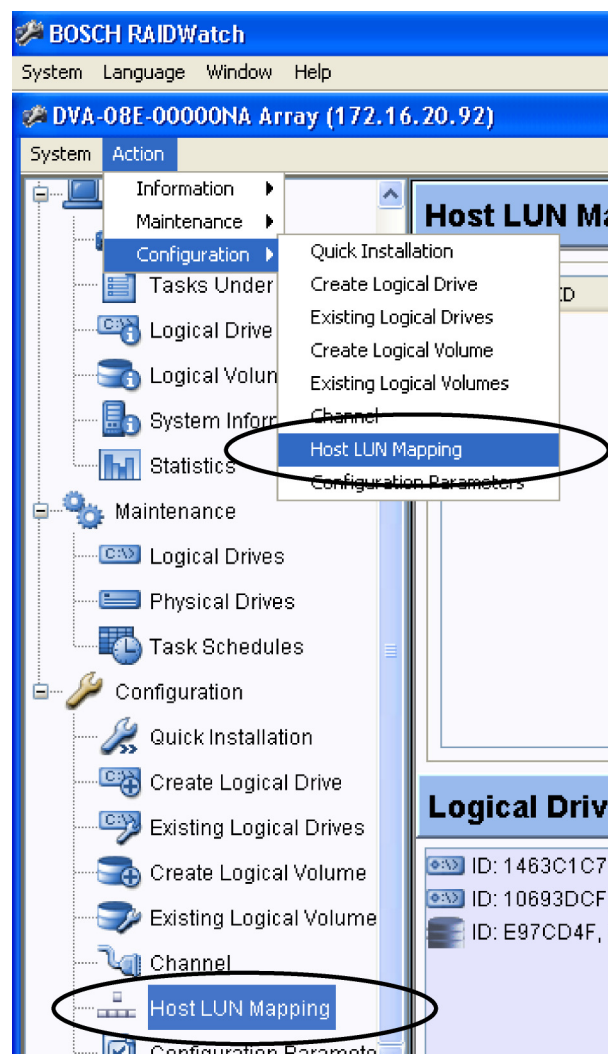

Fig. 10.1 Select the Host LUN Mapping Window
1. In the navigation panel under the Configuration category, click on the Host LUN Mapping where you can find the configuration options with the mapping operation. (See *Figure 10.1*).